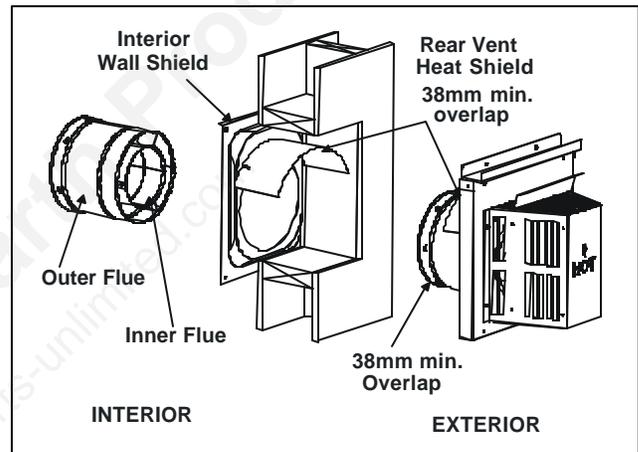

FIGURE 22. Flueing through the Wall
- The heat shield sections will overlap to match the wall thickness (depth). The small leg in the shield rests on top of the flue to properly space it from the pipe section (see Figure 22).